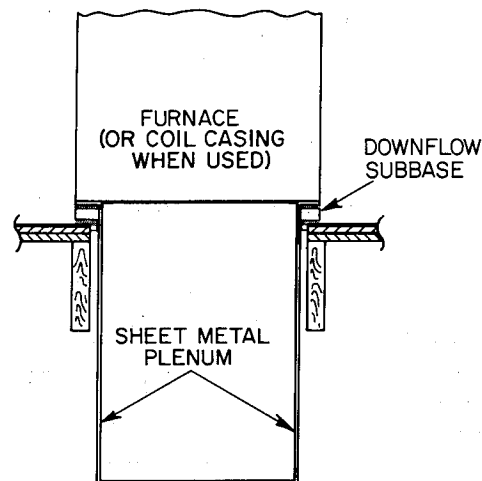

Fig. 6 —Furnace, Plenum, and
2. When completed, downflow subbase, plenum, and furnace (or coil casing when used) should be installed as shown in Fig. 6.